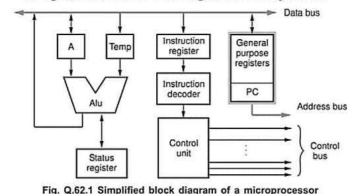

Fig. Q.62.1 Simplified block diagram of a microprocessor
• The Fig. Q.62.1 shows the block diagram of a microprocessor.